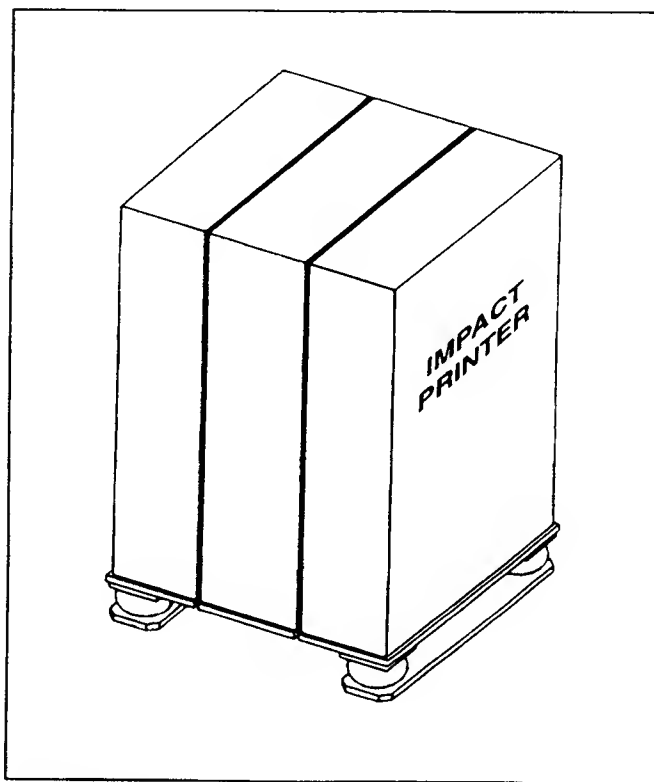

Figure 2-1. Step a.
- a. Wearing protective glasses, stand to one side, and cut the banding straps around the outer cardboard carton (see Figure 2-1). Remove the outer carton.